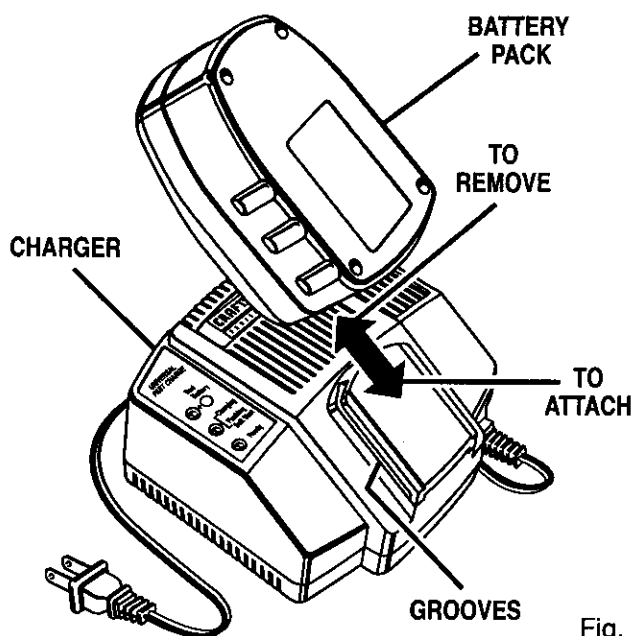

Fig. 1
- Attach battery pack to charger by aligning raised ribs on battery pack with grooves in charger, then slide battery back onto charger. *See Figure 1.*